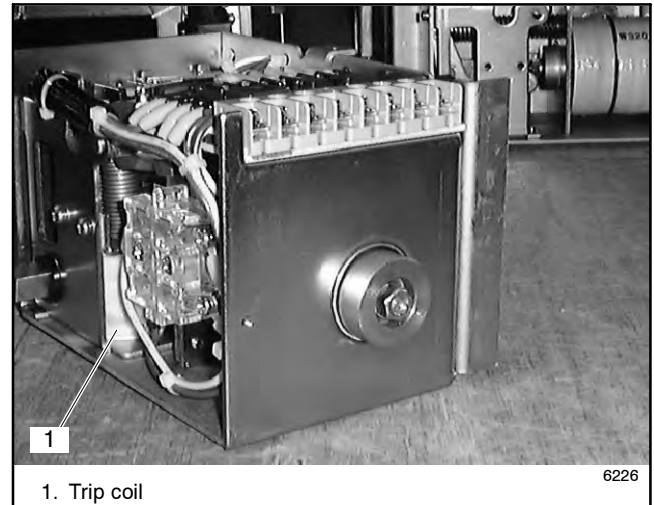

Figure 7-21 Trip Coil Location
1. Locate the trip coil. See Figure 7-21.